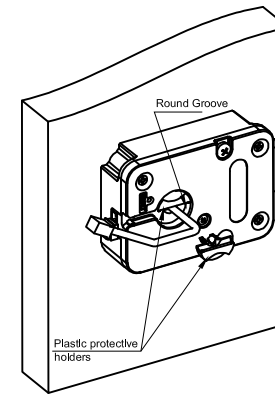

Fig. 9
6. Press the connector into the socket on the lock body. Make sure the connector is securely in place. (Fig. 9)